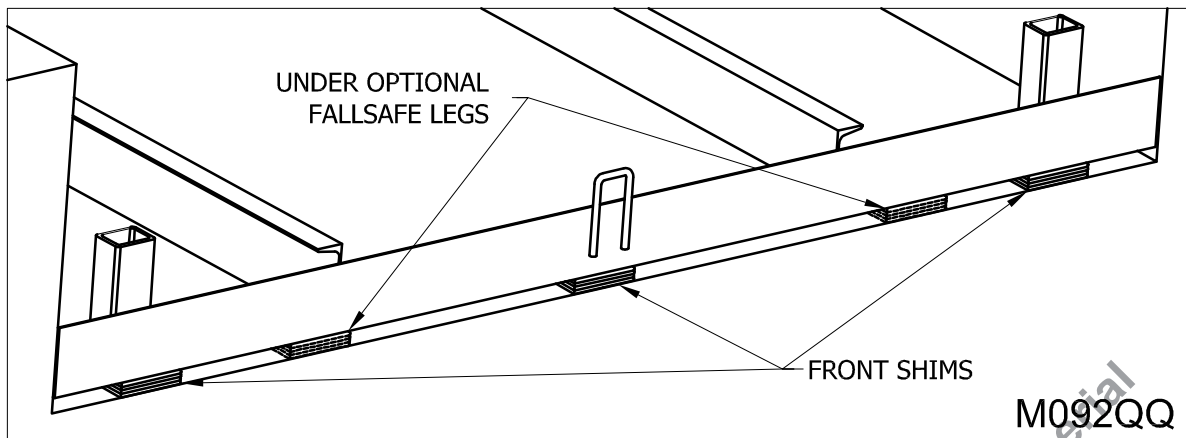

Figure 31: Front Angle & Deck Stop Shims
1. ___ Front angle shims. (See "Figure 31: Front Angle & Deck Stop Shims" on page 29)
2. ___ Deck stop shims. (See "Figure 31: Front Angle & Deck Stop Shims" on page 29)